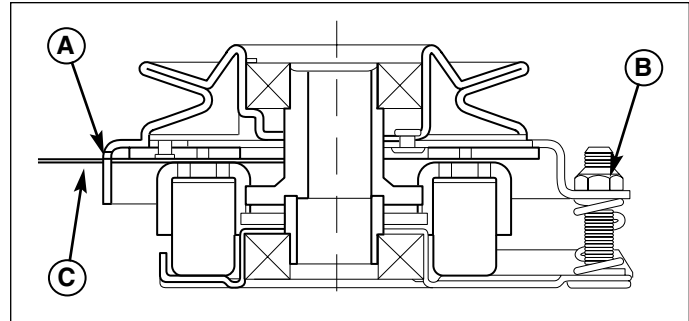

Figure 27. Adjust PTO Clutch
3. Insert a .016" - .018" (0,40 - 0,45mm) feeler gauge (C) through each window, positioning the gauge between the rotor face and the armature face as shown in Figure 27.